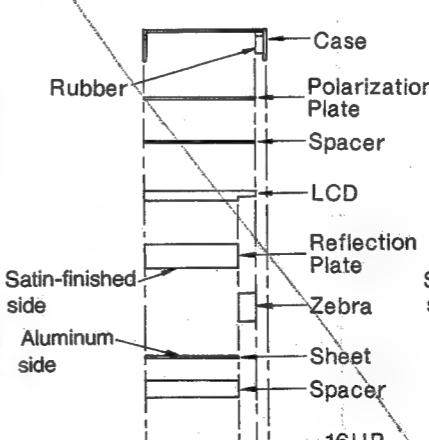

Fig. 22-1
*4. To replace the clock LCD, refer to Fig. 22-1.